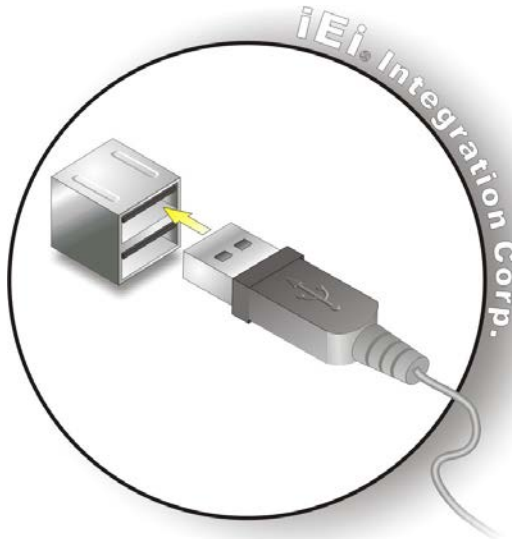

Figure 3-13: USB Device Connection
Step 2: Align the connectors. Align the USB device connector with one of the connectors. See Figure 3-13.